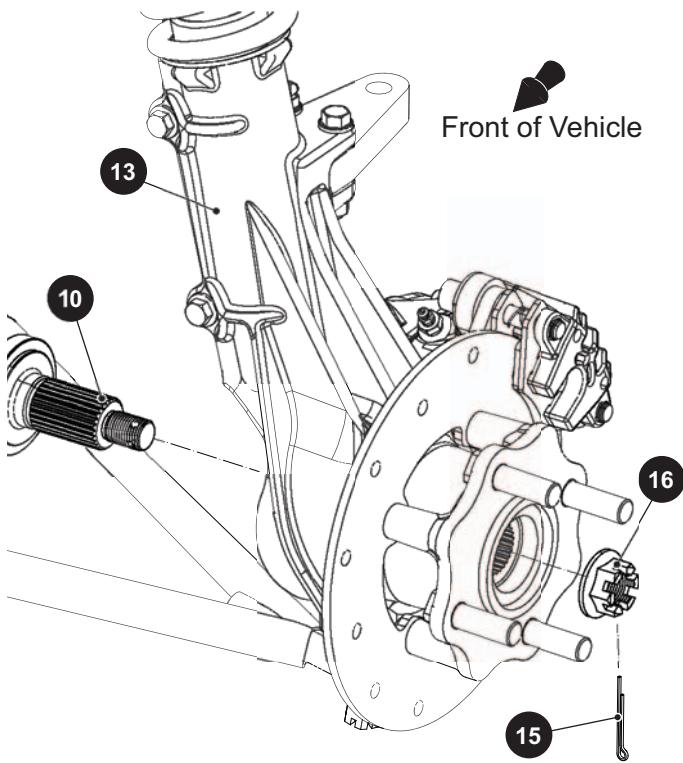

Fig. 2 CV Axle Attachment
5. Remove the cotter pin (15) from the CV Axle (10).
6. Remove the castellated nut (16) securing the CV axle (10) to the strut assembly (13) (Ref. Fig. 2).
13. Remove the axle (10) from the strut assembly (13) by pulling the strut assembly outward (Ref. Fig. 2).